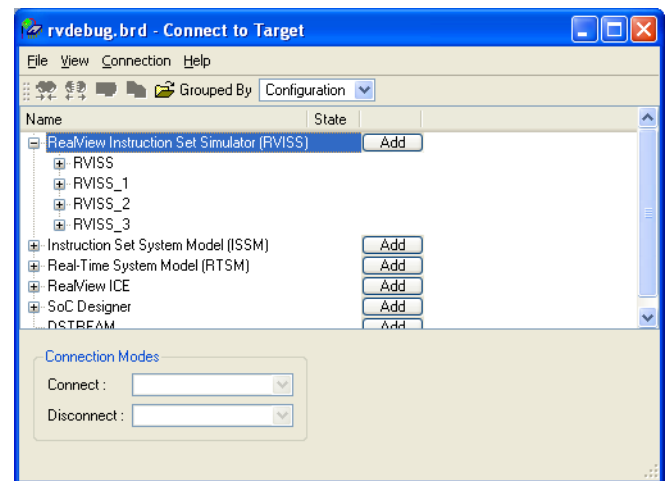

Figure 5-3 RVISS_3 Debug Configuration in the Connect to Target window
5. Click **OK**. The ARMulator Configuration dialog box closes, and a new Debug Configuration is added, called RVISS_3 as shown in Figure 5-3.